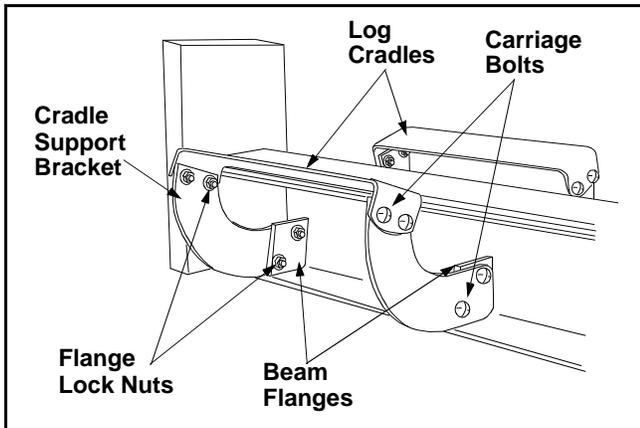

Figure 10
- Place one cradle support bracket against the lower outside surface of one of the beam flanges. See Figure 10.